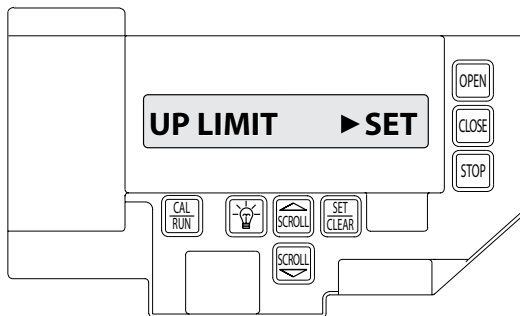

FIG. 5
4. Press SET/CLEAR key to switch display to "UP LIMIT>SET". FIG. 5.
2. Press SCROLL until display reads "UP LIMIT>SET " or "DOWN LIMIT>SET." FIG. 5.